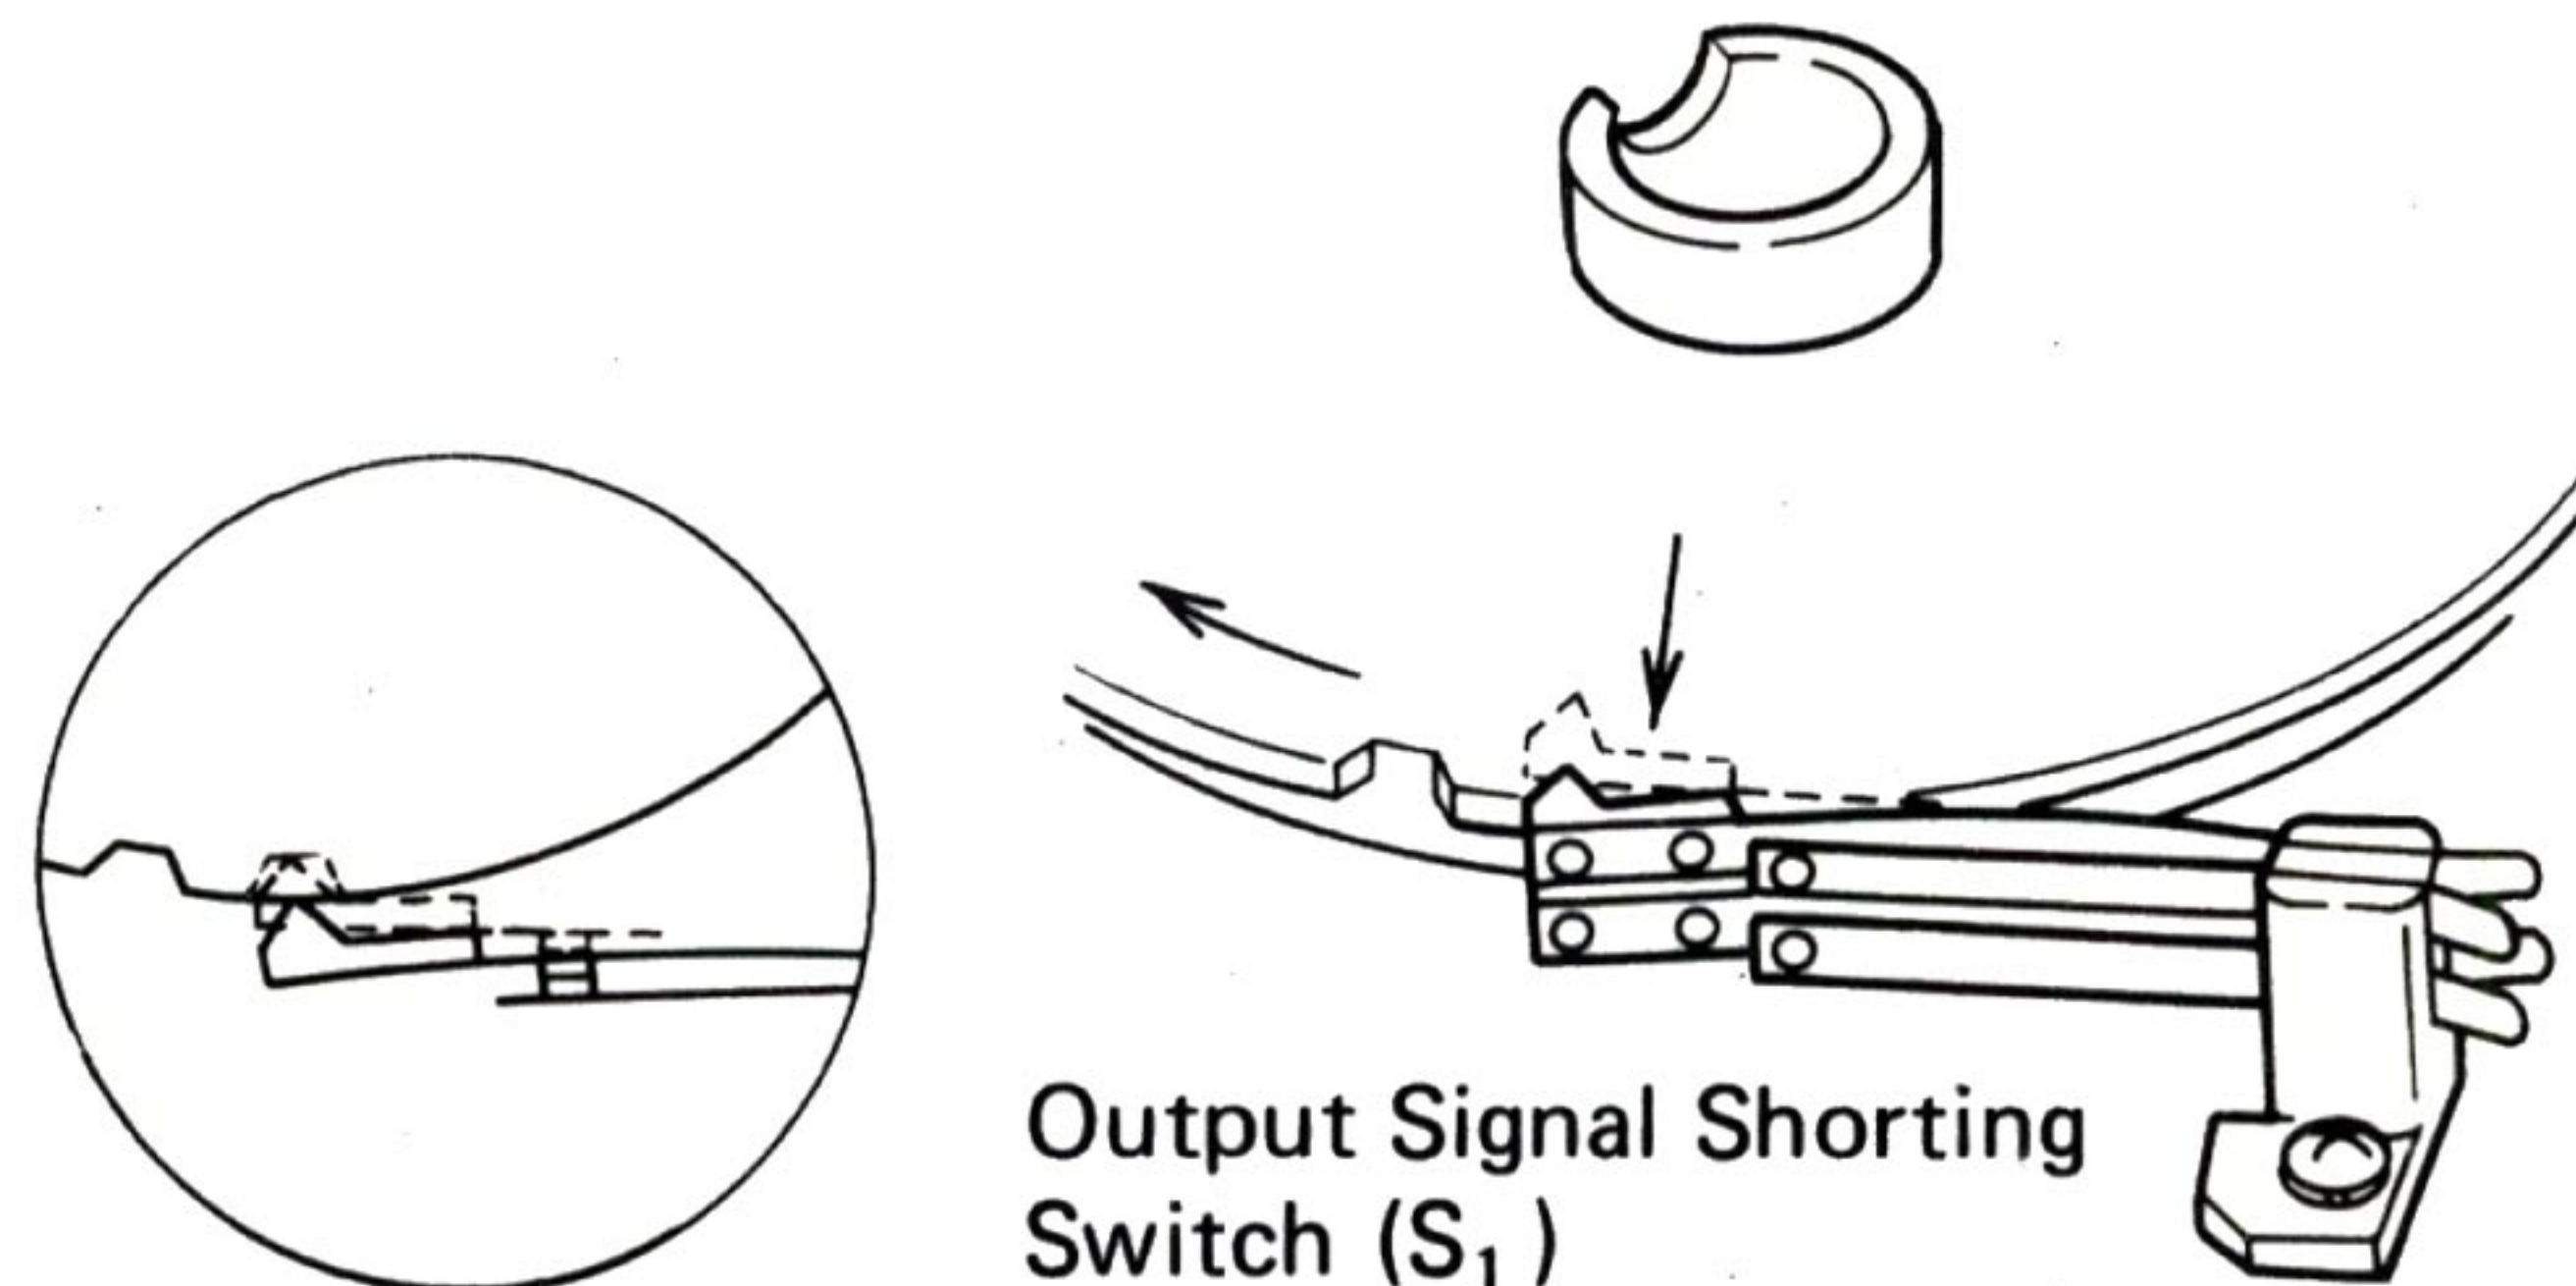

Fig. 11
- b) The output signal shorting switch ( $S_1$ ) short-circuits the cartridge signal, preventing noise from being heard while tonearm operation is in progress (Fig. 11).